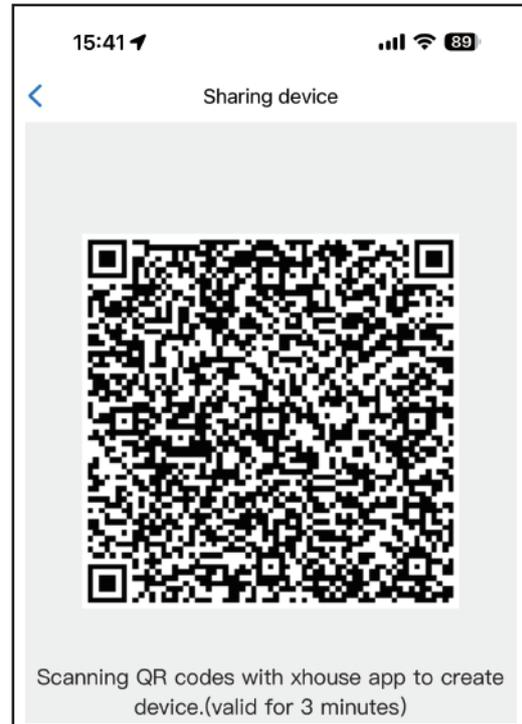

Fig 10
Step 2. The new user download the APP and open it, Press the “Scan” on the top right corner to scan the QR code.(Fig 10)